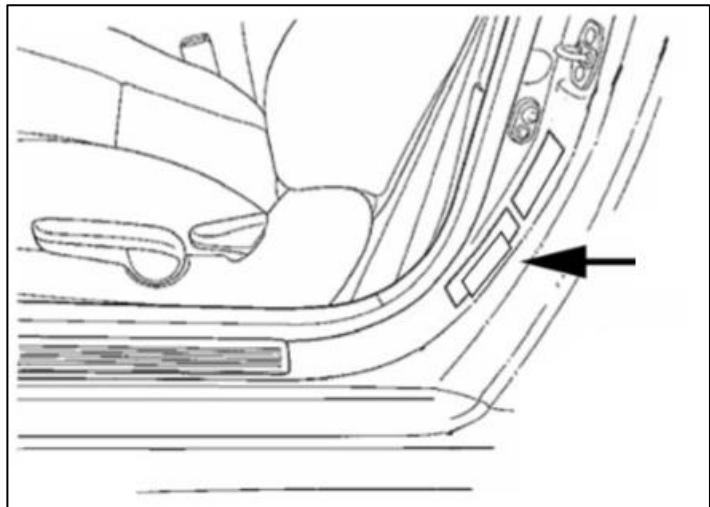

Fig. 12
- 19) Application of Tire Inflation Pressure Label is required when Accessory tire size and/or inflation pressure of differs from OE tire inflation label. See figure 12.